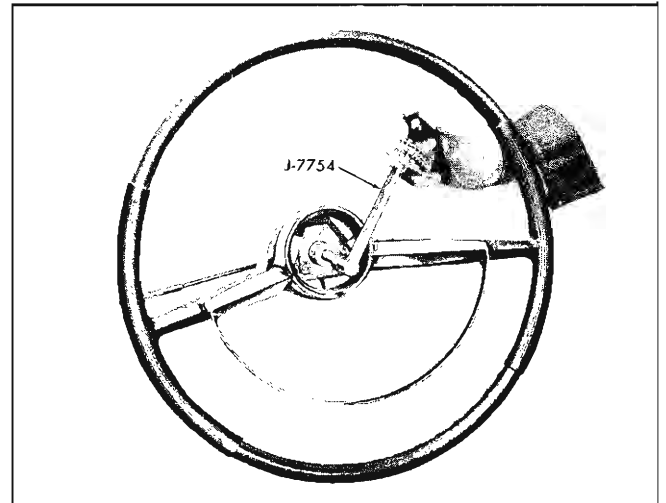

Fig. 9A-5 Checking Steering Gear Adjustment
**NOTE:** If the reading for "a" is not in specifications, correct adjuster plug bearing preload as follows: Loosen adjuster plug lock nut, using drift or similar tool, and move flexible coupling (by turning steering wheel) as necessary to permit installation of tool J-7624 on adjuster plug (Fig. 9A-10). Tighten plug as required to obtain proper reading (3-5 lb. in.) and tighten adjuster plug lock nut. If after obtaining proper adjuster plug bearing preload in "a" and the torque reading in "b" is not within specification, then DO NOT remove gear assembly to refit rack-piston balls unless a complaint of loose steering is received. Upon such a complaint, a thrust adjustment ("a") and over center adjustment ("c") should correct the problem if it lies in the steering gear.